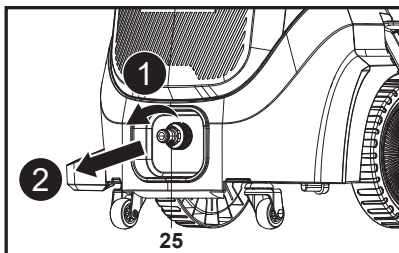

Fig. 23
1. Remove the water inlet adaptor (25) from the water inlet connector (10) (Fig. 23).